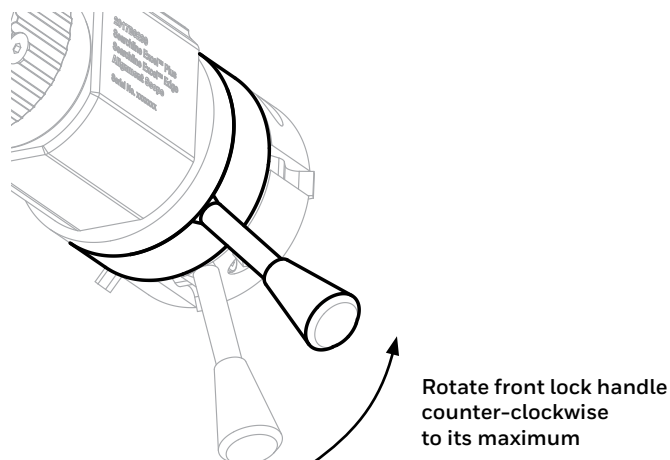

Figure 32. Setting the initial position of Front lock handle
At start, ensure the Front lock handle is rotated counter-clockwise to its maximum and the Alignment Scope's spacers are precisely aligned with the instrument's cowling gap before locking the fitting. Refer to Figure 32.
1. Ensure the Front lock handle is rotated counter-clockwise to its maximum (see Figure 32). This will pull the Alignment Scope's slots in.